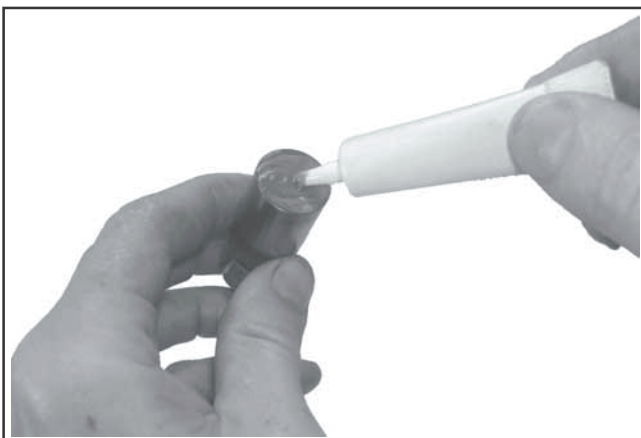

Figure 10-41. Applying Camshaft Lubricant to Bottom of Lifters.
2. Apply camshaft lubricant (see Section 2) to the bottom surface of each lifter. See Figure 10-41. Lubricate the hydraulic lifters and the lifter bores in the crankcase with engine oil.